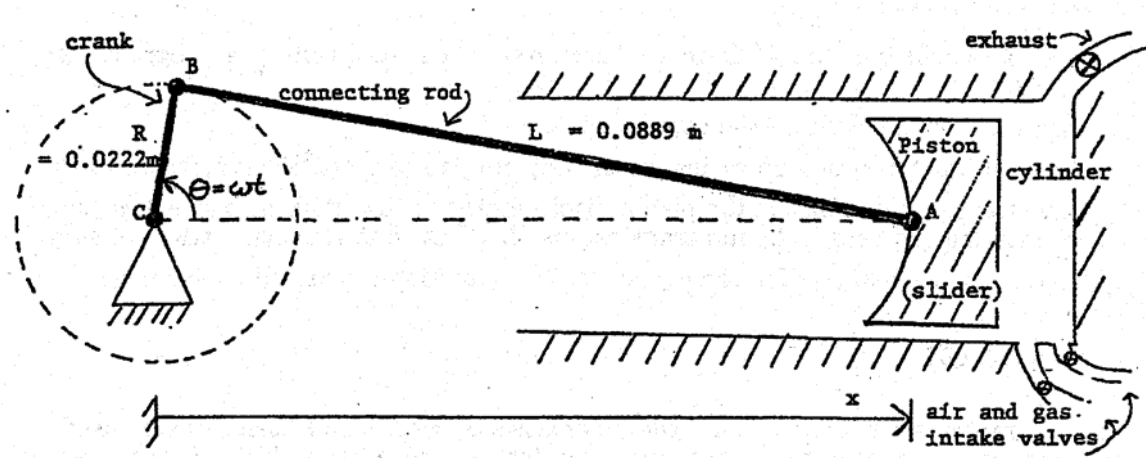

Figure I.1
In this laboratory we will investigate the kinematics of some simple mechanisms used to convert rotary motion into oscillating linear motion, and vice versa. The first of these is the slider crank, a mechanism widely used in engines to convert the linear thrust of the pistons into useful rotary motion (see Figure I.1). Here, you will measure the acceleration of the piston of a lawn mower engine at various speeds. The results exemplify a simple relation between speed and acceleration for kinematically restricted motions, which you should discover. An adjustable slider crank apparatus and a computer simulation will show you some effects of changing the proportions of the slider-crank mechanism on piston velocity and acceleration. Other linkages and cam mechanisms may also be used for linear-rotary motion conversion, and some of these will be included in the lab.
Figure I.1 shows a sketch of the slider crank mechanism. The point A is on the piston, line AB (with length L) is the connecting rod, line BC (with length R) is the crank, and point C is on the crankshaft. In an engine, a mixture of gasoline and air in the cylinder is ignited in an exothermic (heat producing) reaction. As a result, the pressure in the cylinder rises, forcing the piston out. The force transmitted through the connecting rod has a moment about the center of the crankshaft, causing the shaft to rotate. An exhaust valve releases the gas pressure once the piston is extended. Inertia of machinery (often a flywheel) connected to the crankshaft (as well as forcing from other pistons in multi-cylinder engines) forces the piston back up the cylinder. In a standard 'four-cycle' engine the crankshaft makes another full revolution before another ignition (to bring in fresh air and compress it before ignition). Though the piston is only being forced one fourth of the time, the crankshaft rotates at a more or less constant rate.
- *Engine:* Look at the engine, and see how its various parts fit together. It may help to look at Figure I.1, and at the various demonstration slider-cranks available to look at in the lab. Identify the piston, connecting rod, and crankshaft (the connecting rod won't be visible at your lab set-up, but you can see it in the demonstration slider-cranks). The cylinder head has been removed, exposing the top of the piston and allowing sensors to be attached.
- As with the data acquisition program, the maximum and minimum values are displayed. These are the simulation maxima and minima. Note that the displacement shown is the value x in Figure I.1, minus the connecting rod length L . This makes it more easily comparable to the measured data. The $x = 0$ point is thus defined to be halfway between the piston's top and bottom positions, instead of at the center of the crankshaft.